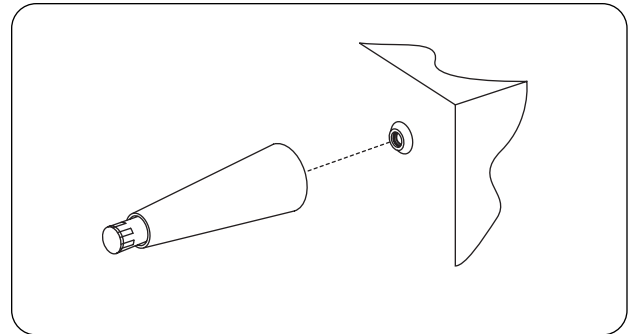

Figure 4. Installing Legs
4. If your unit is equipped with legs, carefully lay unit on its side and install the four legs as shown in Figure 4.